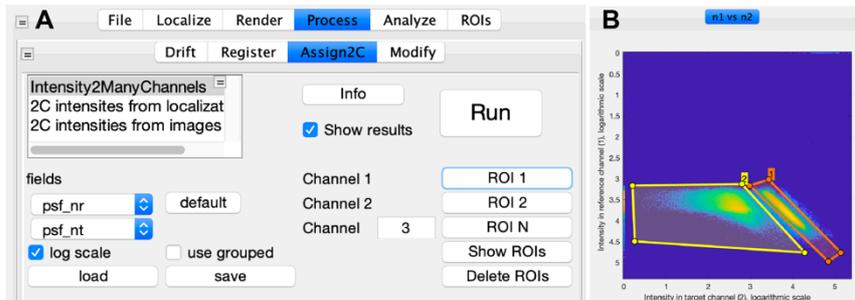

Figure 7: A) GUI. B) Regions corresponding to the two fluorophore species AF647 and CF680.
5. Compare to Figure 7 and **Run**.